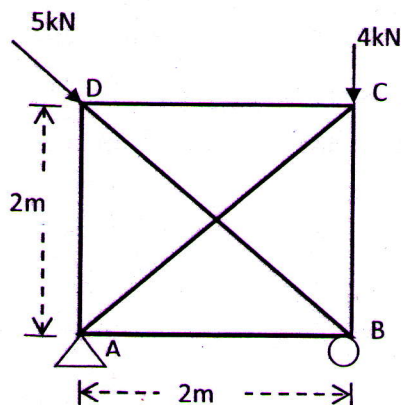

Fig.4
- 4 a) Analyse the truss in Fig.4 and tabulate the member forces. Axial rigidity of all members can be assumed as AE . 13